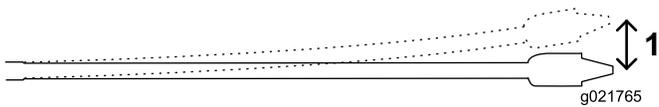

Figure 25
The 3 m (10 ft) pipes used on this machine can flex to an 8% pitch over the length of the pipe; this equates to a bend of no more than 20 cm (8 inches) off a straight path (Figure 25).
- Insert the first 3 m (10 ft) of drill bit/pipe into the ground with no steering. The end of the drill bit will be 76 cm (30 inches) deep (Figure 25).